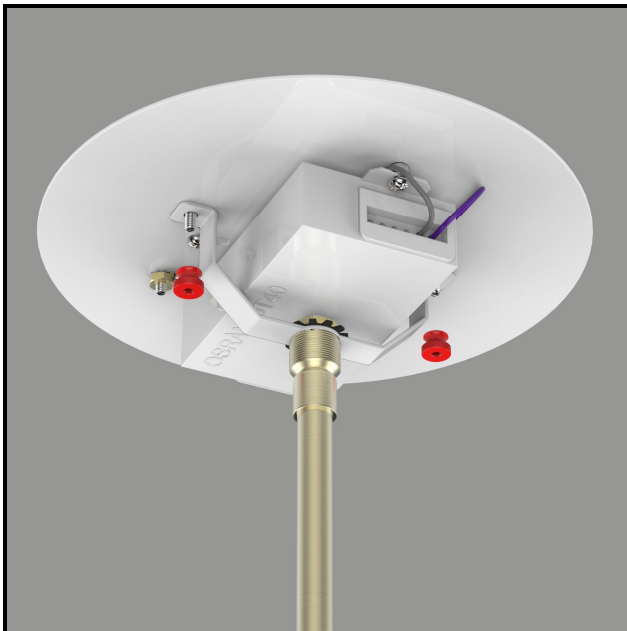

Figure 10
- Align fixture bracket over studs on mounting disk. Secure with thumb knobs. (Figure 10)